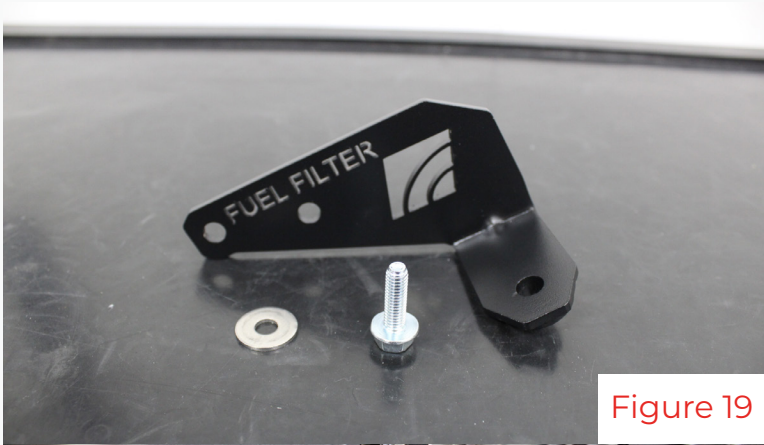
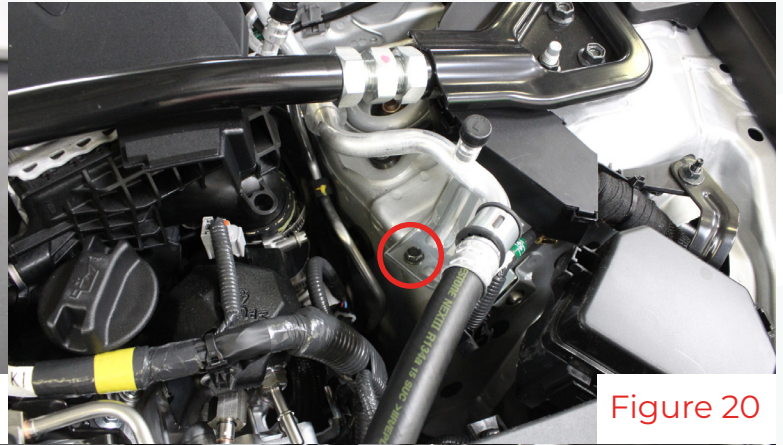
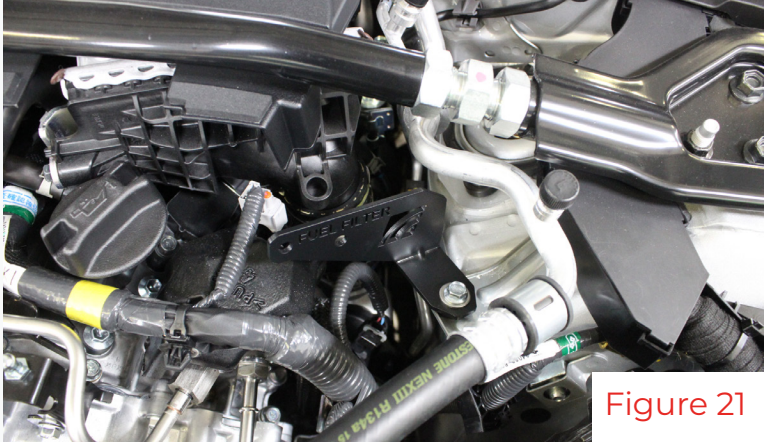

Figure 19
Figure 20
Figure 21
11. Locate the AMS Fuel Filter Bracket, m6 washer and m6 bolt(fig 19). Remove the m6 bolt holding the a/c line to the bracket(fig 20). Install the AMS Flex Fuel Bracket over the existing brackets. Align the bracket parallel to the a/c line as shown before(fig 21 & 22).